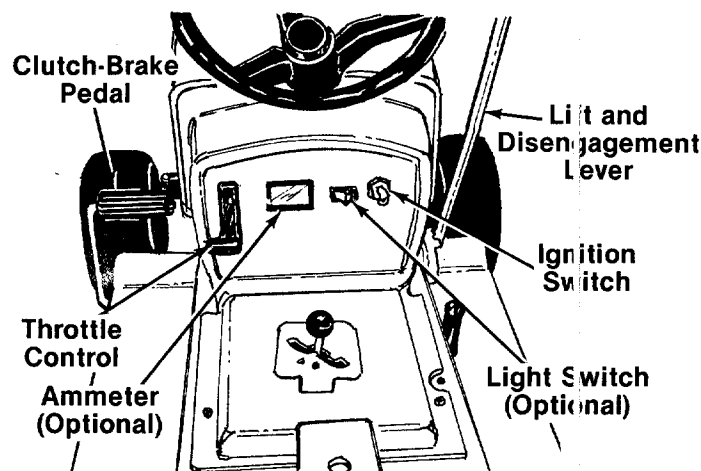

FIGURE 16.—Models 620, 638 and 698 Shown
The throttle control is used to regulate the engine speed and to activate the choke on the engine. To get maximum efficiency from cutting, the throttle should be in the FAST position when operating the mower. Pushing the throttle all the way forward past FAST, will choke the engine. See figure 16.
The shift lever is located on the left side of the console and has three positions, "FORWARD," "NEUTRAL" and "REVERSE." See figure 16. The clutch-brake pedal must be depressed and the lawn tractor must not be moving when shifting gears. Do not force the shift lever. Release the clutch-brake pedal slightly to line up the shifting collar in the transmission. Then try to shift gears.
Turn the key to the "START" position to start the engine. When the engine is running, let the key return to the "ON" position. To stop the engine, turn the key to the left to the "OFF" position and remove it to prevent accidental starting. See figure 16.
Push the light switch to turn on the lights. The lights will only operate when the engine is running. See figure 16.
The ammeter registers the rate of battery charge or discharge. The ammeter will register on the discharging side when starting the engine. It should register on the opposite side (charging) when the engine is running in the fast position until the battery is completely charged. With a fully charged battery or with the engine idling, the ammeter will not show a charge. See figure 16.
The clutch-brake pedal is located on the left side of the lawn tractor. Depressing the clutch-brake pedal part way disengages the clutch. Pressing the pedal all the way down disengages the clutch and engages the disc brake. See figure 16.
4. Set the throttle control in the CHOKE position. See figure 16.
5. Turn the ignition key to the "START" position. When the engine is running, let the key return to the "ON" position. See figure 16.